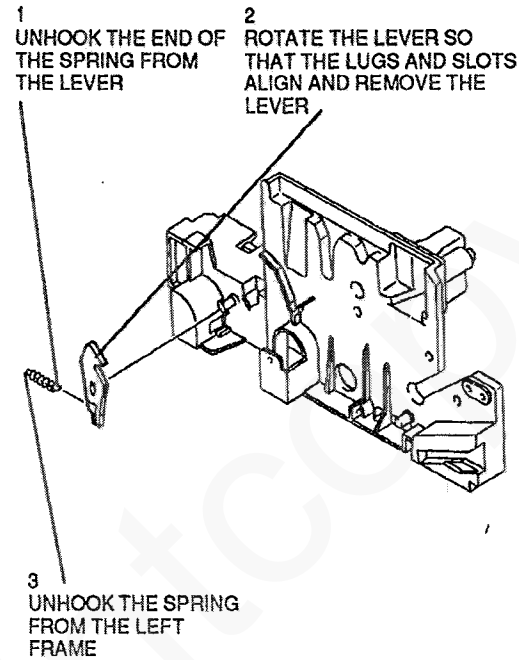

Figure 2. Right print cartridge lever and spring removal
6. (Figure 2) Remove the right print cartridge lever and spring.